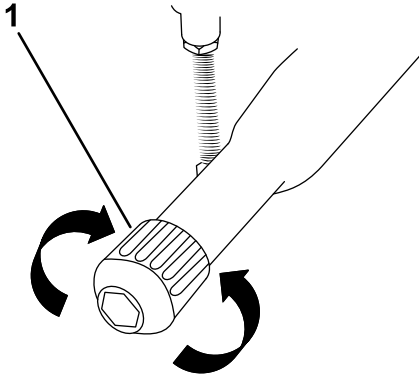

Figure 29
- **Loosening the parking brake:**(Figure 29).
4. Rotate the parking-brake knob **counterclockwise** (Figure 29).
- **Tightening the parking brake:** (Figure 29).
4. Rotate the parking-brake knob **clockwise** (Figure 29).